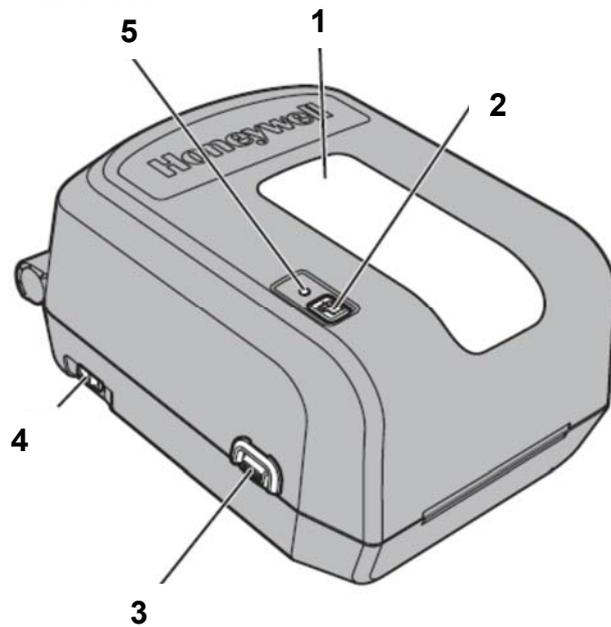

Figure 1: Honeywell PC42t front panel
- Figure 1: Honeywell PC42t front panel 2
Legend (Figure 1):